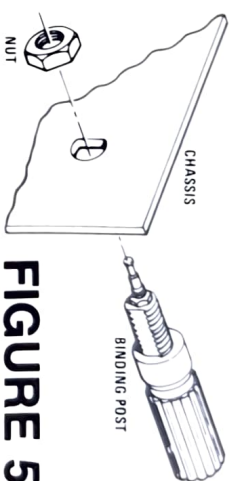

FIGURE 5
- Mount the Binding Posts as shown in Figure 5. The Black one in the center, Red next to C-2 and Green next to the Fuse Holder.